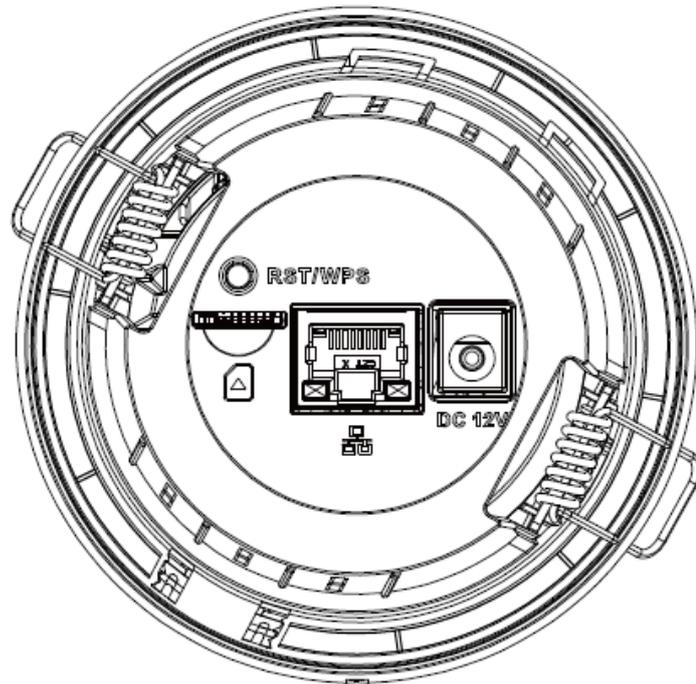

Figure 2-2
- Step 3** (Optional) Insert the Micro SD card into the SD card slot according to the direction shown in Figure 2-2.